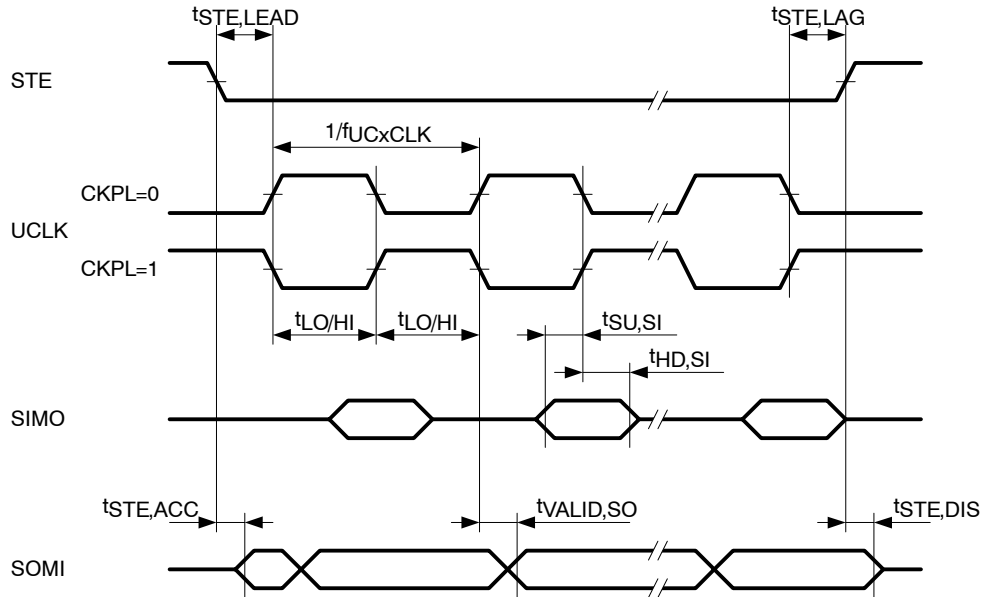
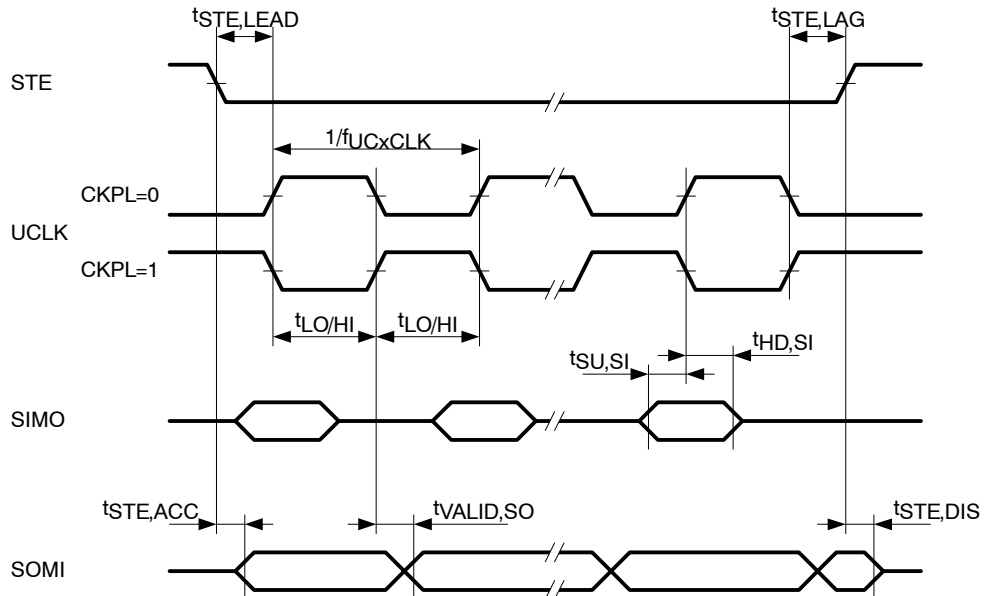

Figure 21. SPI Slave Mode, CKPH = 0
Figure 22. SPI Slave Mode, CKPH = 1
**USCI (SPI slave mode) (see Figure 21 and Figure 22)**